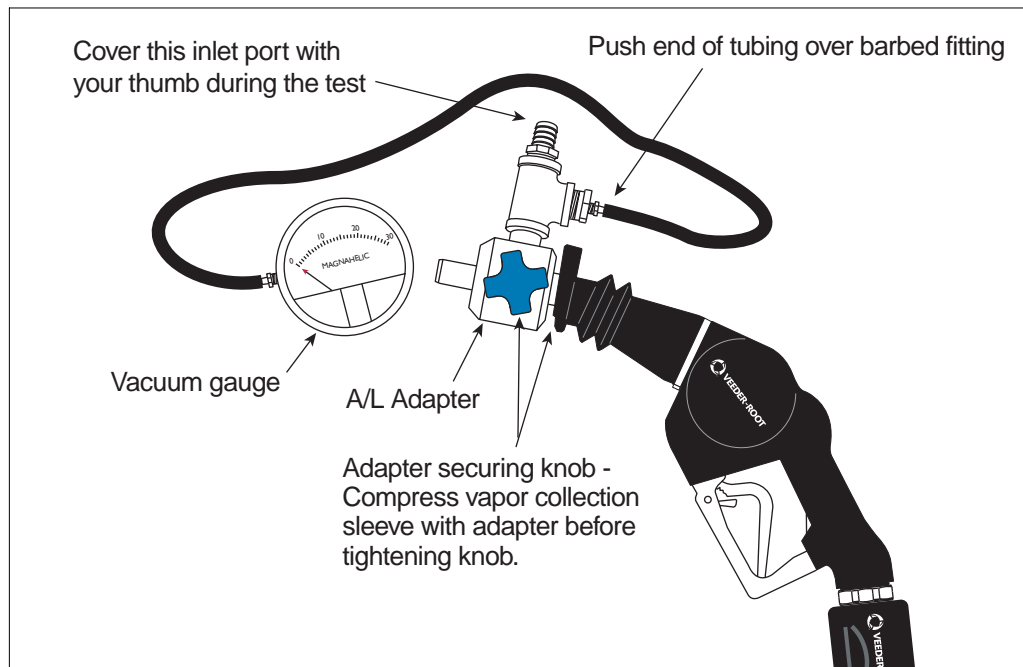

Figure 3. A/L Adapter/ORVR Nozzle Test Setup
1. Place nozzle A/L adapter so that the lip seal passes or excludes the automatic shutoff sensing port and fully compresses the nozzle vapor collection sleeve (see Figure 3).